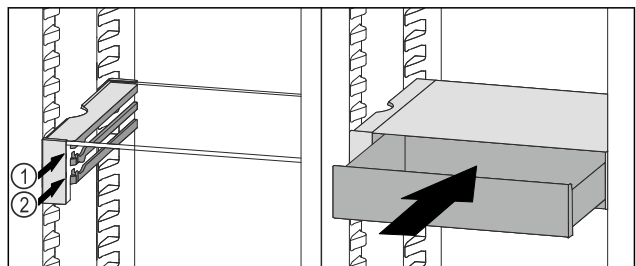

Fig. 63
- ▶ Place the VarioSafe drawer behind the stoppers on desired rib Fig. 63 (1) or Fig. 63 (2).